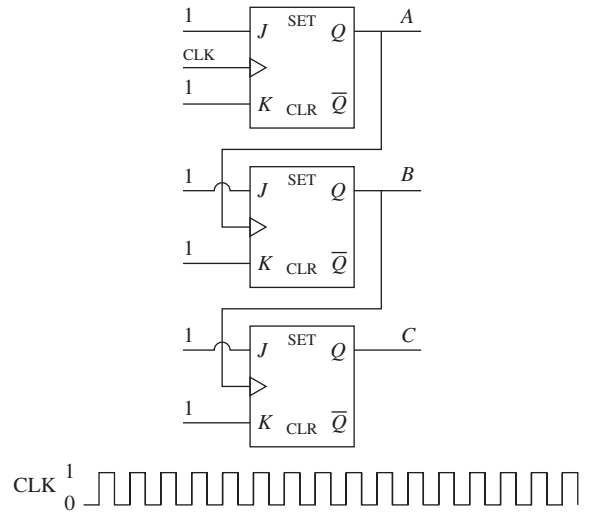

FIGURE P10.65 Frequency divider and clock wave.
10.65 (H) A frequency divider and the input clock are shown in Figure P10.65, and its initial outputs are all zeros. Draw the output waveform of A, B, and C.